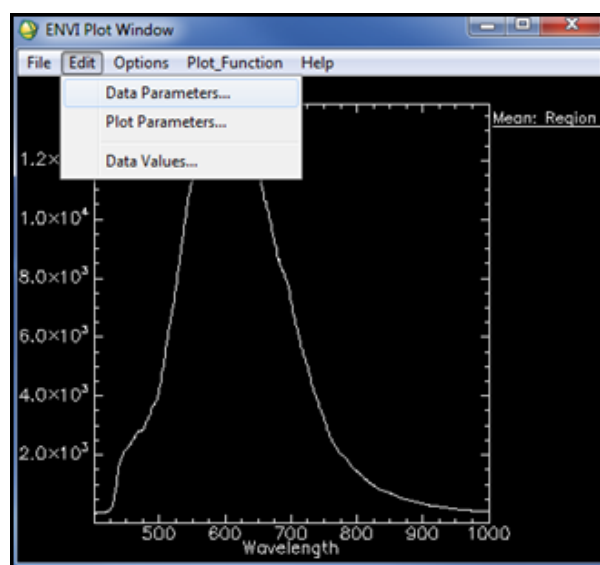

Figure 5.11d. ENVI Plot Window
- A new ENVI Plot Window opens (Figure 5.11d).